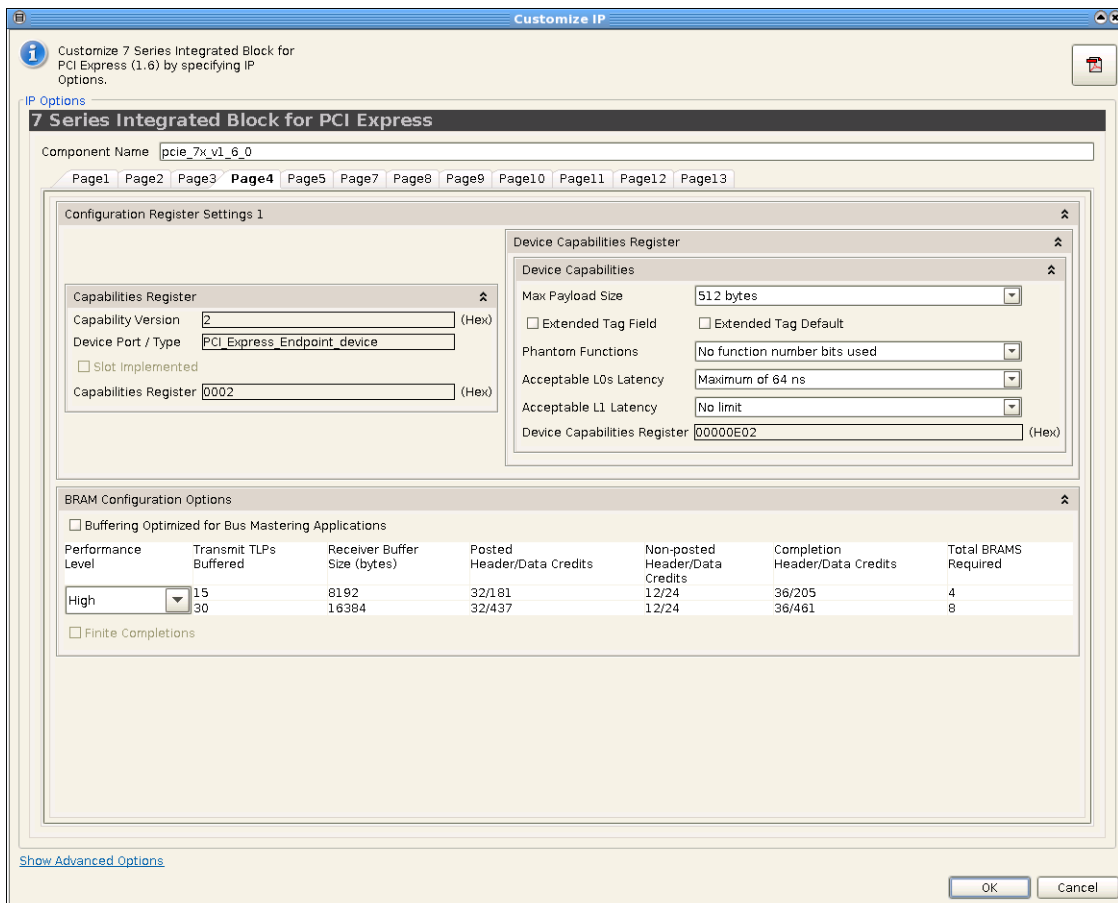
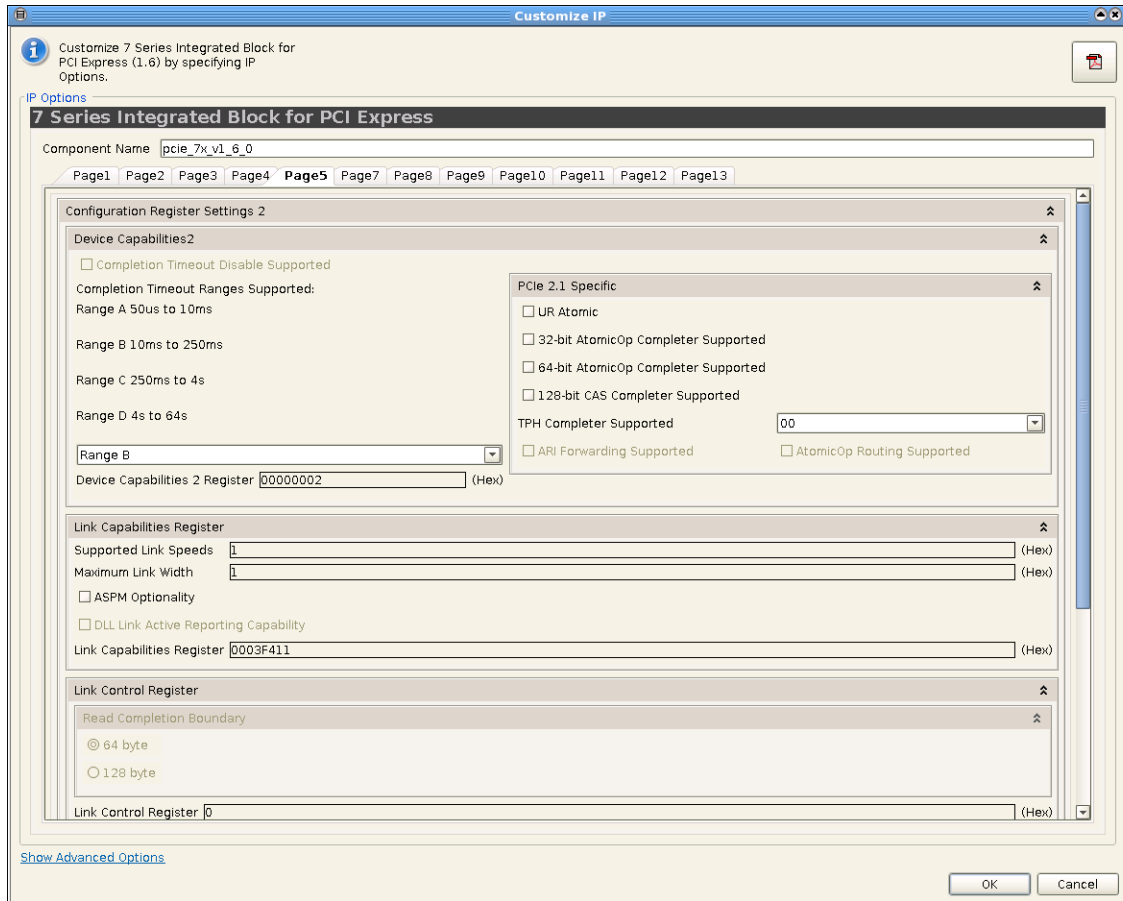
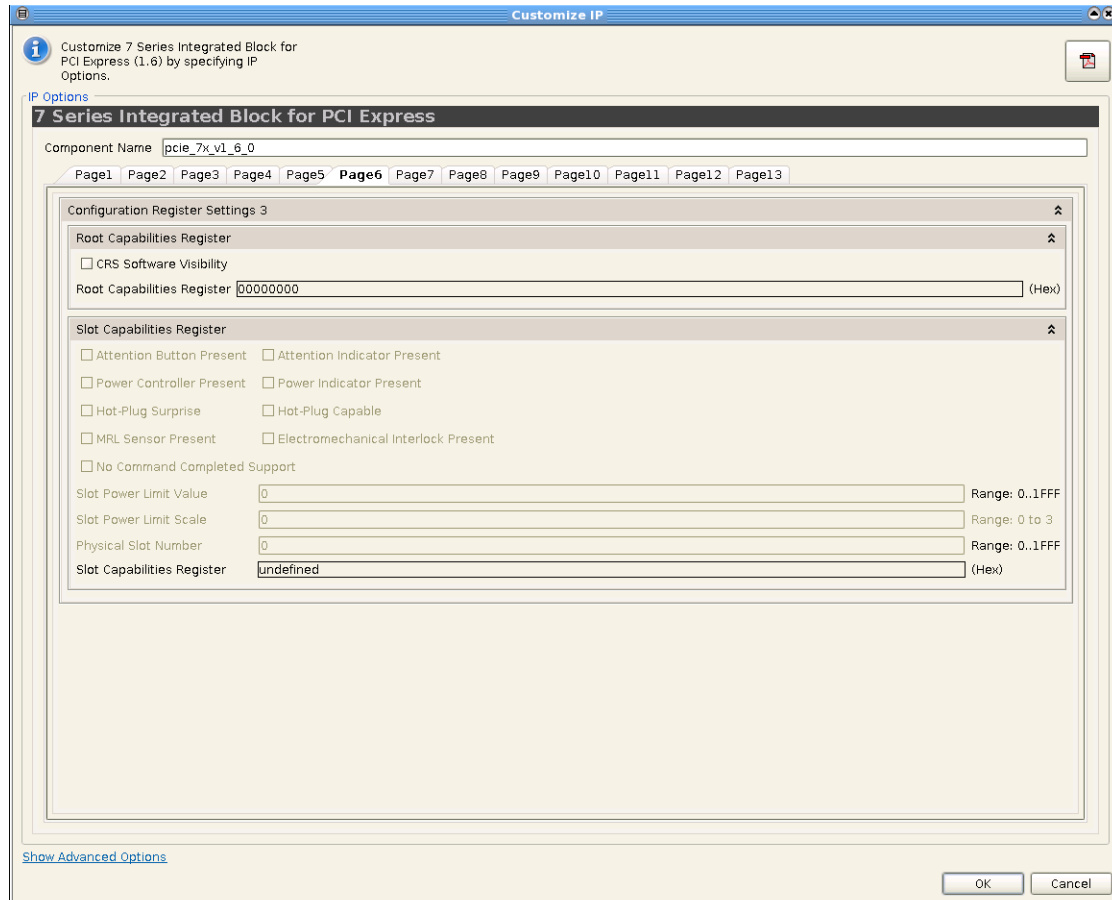

Figure 4-4: Screen 4: Configuration Settings
Figure 4-5: Screen 5: Configuration Settings
Figure 4-6: Screen 6: Configuration Settings (Root Port Only)
The Configuration Registers screens shown in Figure 4-4, Figure 4-5, and Figure 4-6 show the options for the Device Capabilities and Device Capabilities2 registers, the Block RAM Configuration Options, the Link Capabilities register, Link Control2 register, the Link Status register, the Root Capabilities register, and the Slot Capabilities register.
IMPORTANT: The Configuration Register Settings 3 screen shown in Figure 4-6 includes the settings for the Root Capabilities register and Slot Capabilities register. This screen is visible only when the Root Port configuration is selected.
- **Attention Button Present:** Indicates the Attention Button is implemented. When set, indicates that an Attention Button for this slot is implemented on the chassis. This option is disabled when "Device_Port_Type" is not "Root Port of PCI Express Root Complex." This is enabled only when Slot_Implemented is selected (see Figure 4-4).
- **Attention Indicator Present:** Indicates the Attention Indicator is implemented. When set, indicates that an Attention Indicator for this slot is implemented on the chassis. This option is disabled when "Device_Port_Type" is not "Root Port of PCI Express Root Complex." This is enabled only when Slot_Implemented is selected (see Figure 4-4).
- **Power Controller Present:** Indicates the Power Controller is implemented. When set, indicates that a software programmable Power Controller is implemented for this slot. This option is disabled when "Device_Port_Type" is not "Root Port of PCI Express Root Complex." This is enabled only when Slot_Implemented is selected (see Figure 4-4).
- **Power Indicator Present:** Indicates the Power Indicator is implemented. When set, indicates that a Power Indicator is implemented on the chassis for this slot. This option is disabled when "Device_Port_Type" is not "Root Port of PCI Express Root Complex." This is enabled only when Slot_Implemented is selected (see Figure 4-4).
- **Hot-Plug Surprise:** When set, indicates that an adapter in this slot might be removed from the system without any prior notification. This option is disabled when "Device_Port_Type" is not "Root Port of PCI Express Root Complex." This is enabled only when Slot_Implemented is selected (see Figure 4-4).
- **Hot-Plug Capable:** When set, indicates that this slot is capable of supporting hot-plug operations. This option is disabled when "Device_Port_Type" is not "Root Port of PCI Express Root Complex." This is enabled only when Slot_Implemented is selected (see Figure 4-4).
- **MRL Sensor Present:** Indicates MRL Sensor implemented. When Set, indicates that an MRL (Manually operated Retention Latch) sensor is implemented for this slot, on the chassis. This option is disabled when "Device_Port_Type" is not "Root Port of PCI Express Root Complex." This is enabled only when Slot_Implemented is selected (see Figure 4-4).
- **Electromechanical Interlock Present:** When set, indicates that an Electromechanical Interlock is implemented on the chassis for this slot. This option is disabled when "Device_Port_Type" is not "Root Port of PCI Express Root Complex." This is enabled only when Slot_Implemented is selected (see Figure 4-4).
- **No Command Completed Support:** When set, indicates that the slot does not generate software notification when an issue command is completed by the Hot-Plug Controller. This option is disabled when "Device_Port_Type" is not "Root Port of PCI Express Root Complex." This is enabled only when Slot_Implemented is selected (see Figure 4-4).
- **Slot Power Limit Value:** Specifies the Upper Limit on power supplied to the slot, in combination with Slot Power Limit Scale value. . This option is disabled when "Device_Port_Type" is not "Root Port of PCI Express Root Complex." This is enabled only when the Slot_Implemented is selected (see Figure 4-4).
- **Slot Power Limit Scale:** Specifies the scale used for the Slot Power Limit value. This option is disabled when "Device_Port_Type" is not "Root Port of PCI Express Root Complex." This is enabled only when Slot_Implemented is selected (see Figure 4-4).
- **Physical Slot Number:** Specifies the Physical Slot Number attached to this port. This field must be hardware initialized to a value that assigns a slot number that is unique within the chassis, regardless of form factor associated with the slot. This option is disabled when "Device_Port_Type" is not "Root Port of PCI Express Root Complex." This is enabled only when Slot_Implemented is selected (see Figure 4-4).